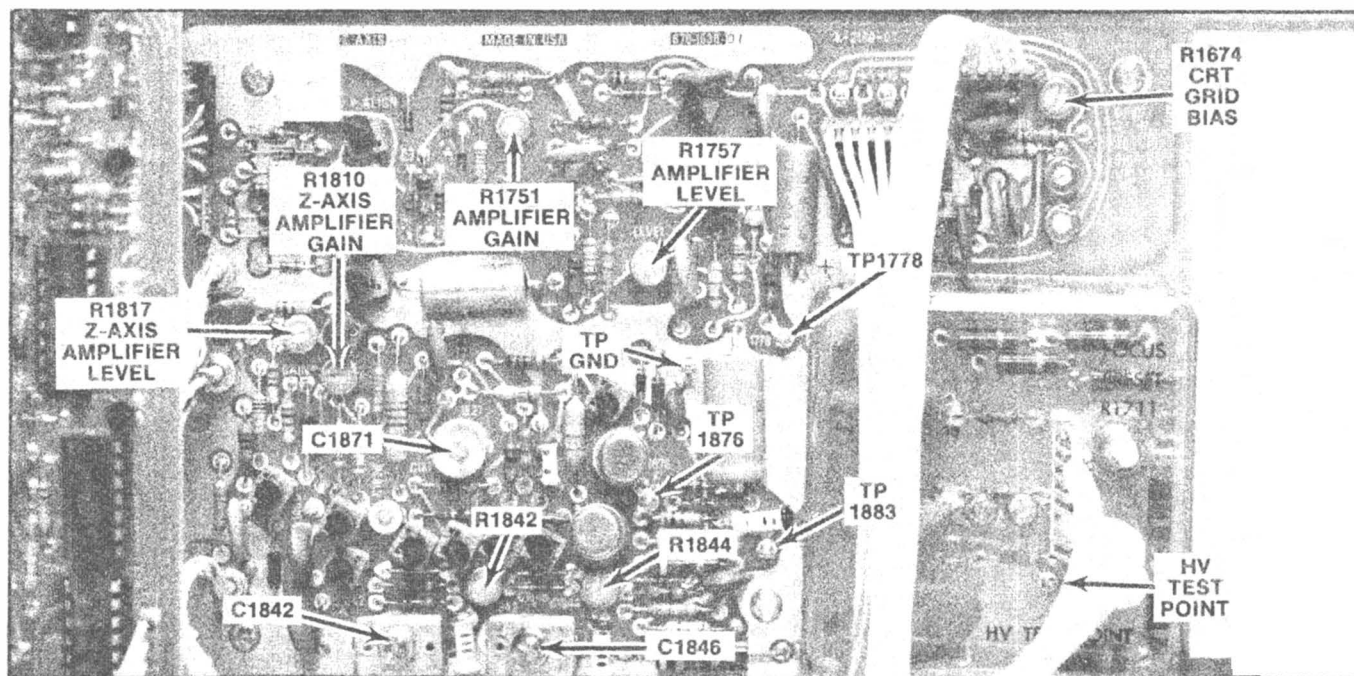

Fig. 5-2. Location of Z-Axis dc level and transient response adjustments and test points.
- Set the dc voltmeter (vom) to measure at least -3000 volts and connect it between the HV Test Point, and chassis ground. See Fig. 5-2 for test point location.
f. Connect the probe tip to TP1876; connect the probe ground to chassis ground with a short grounding strap. See Fig. 5-2 for location.
h. Adjust--Z-axis Amplifier Level, R1817, for a dc level of +9 volts (4.5 divisions above ground level). See Fig. 5-2 for adjustment location.
i. Connect the dc voltmeter (vom) between TP 1778 and chassis ground. See Fig. 5-2 for location.
k. Adjust--Focus Amplifier Level, R1757, for a meter reading of +123 volts. See Fig. 5-2 for adjustment location.
m. Adjust--Crt Grid Bias, R1674, so that the trace on the crt screen is just extinguished. See Fig. 5-2 for adjustment location.
r. Adjust—Z-Axis Amplifier Gain, R1810, for a pulse waveform peak amplitude of 74 volts above the ground reference level. See Fig. 5-2 for adjustment location.
b. Connect the test oscilloscope 10X probe tip to TP 1883; connect the probe ground to chassis ground TP located in the middle of the Z-Axis circuit board. See Fig. 5-2 for test point location.
f. Adjust—C1871 for flat top and R1842, C1842, R1844, and C1846 for optimum square corner on the displayed pulse (use low-capacitance screwdriver to adjust variable capacitors). See Fig. 5-2 for adjustment location.
h. Adjust—R1842 and C1842 for optimum square corner at 1.5 divisions of displayed pulse. See Fig. 5-2 for adjustment location.
j. Adjust—R1844 and C1846 for optimum square corner at five divisions of displayed pulse. See Fig. 5-2 for adjustment location.